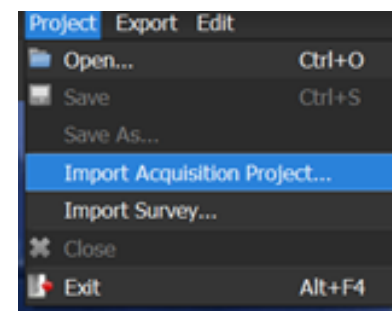

Fig. 27 Import acquisition project step 1
1. Press on the **Project** icon (top left corner of Fig. 26) and select **Import Acquisition Project...** option (Fig. 27),